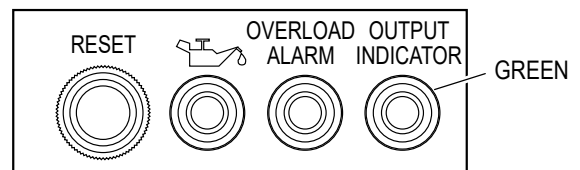

Figure 20. Output Indicator (GREEN)
9. Check that the output indicator stays on (green) (Figure 20). The overload alarm (red) will turn on for a few seconds at startup but this does not indicate an error.